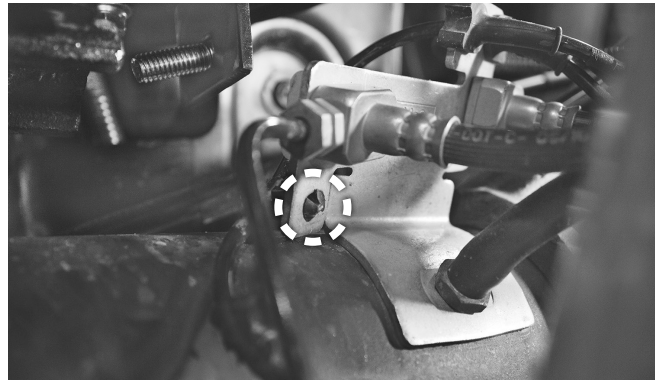

*Fig. 17*
- Refer to Fig. 17 for the driver's (left) and passenger's (right) side assemblies.